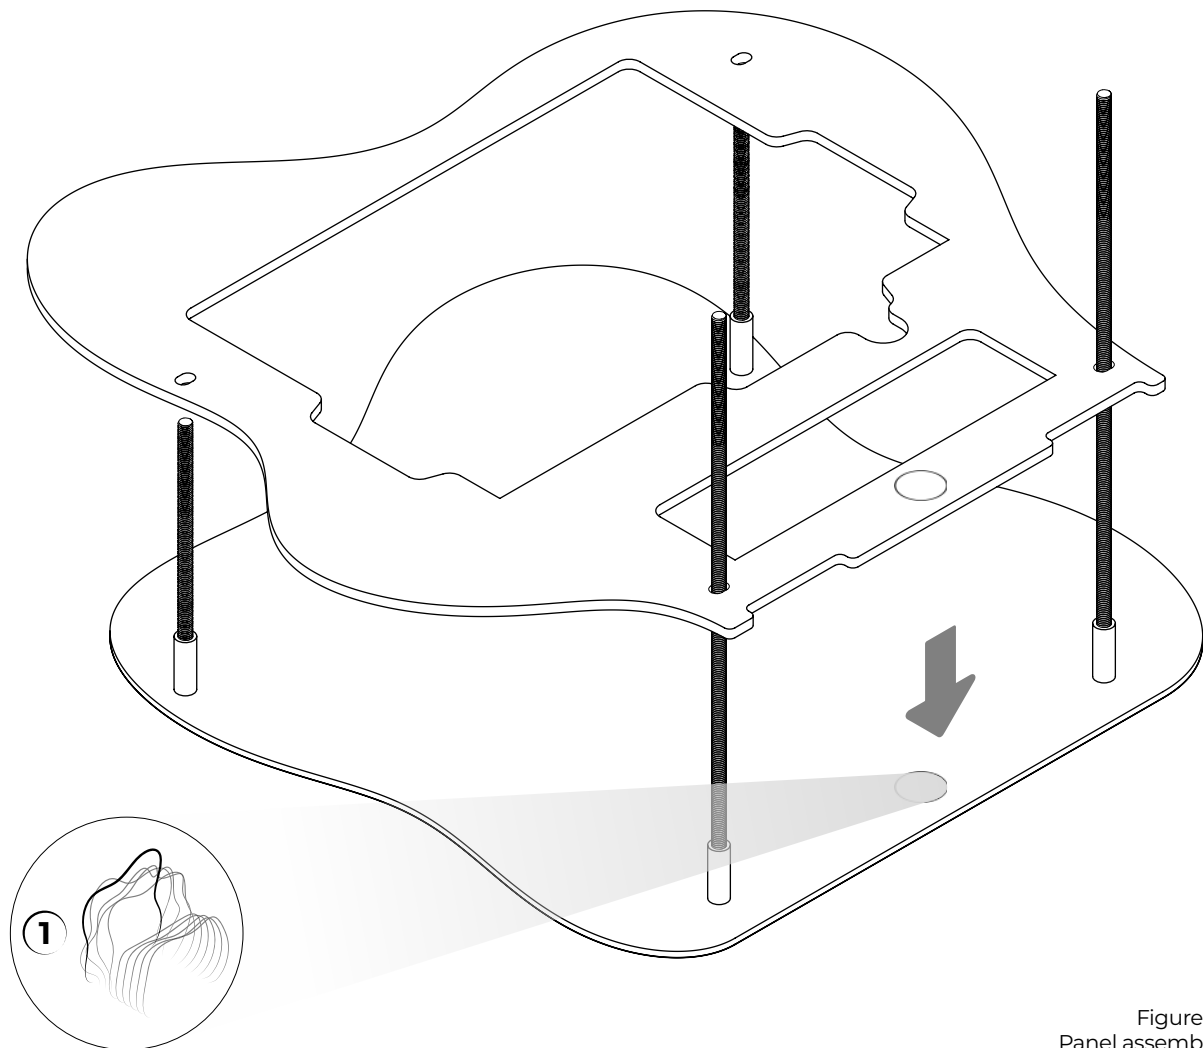

Figure 1.
- To be guided on the order and orientation of the panels follow the directions on the labels (Figure 1)
- Insert 4 spacers and then the next panel (Figure 1)